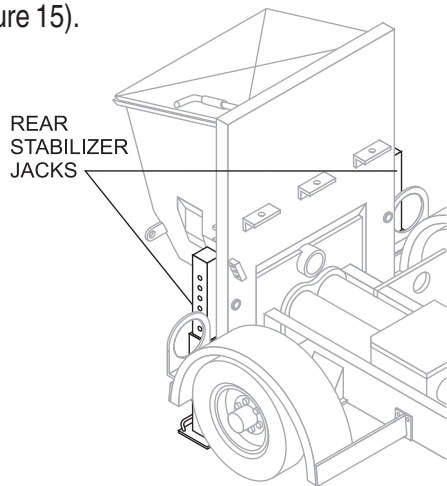

Figure 15. Locating Rear Stabilizer Jacks
1. Locate both the left and right rear stabilizer jacks (Figure 15).